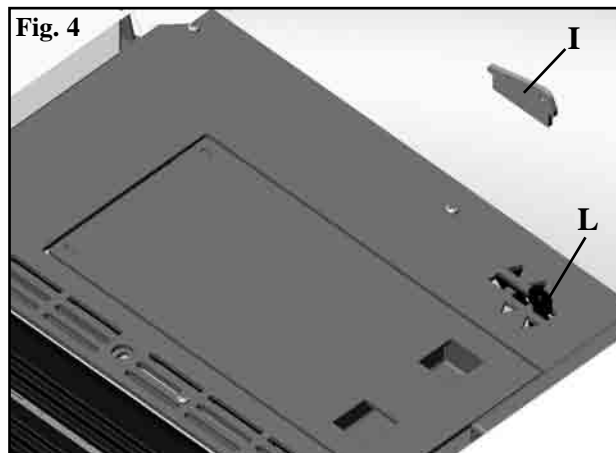

Fig. 4
The distribution of warm air can be adjusted manually using lever L which is accessible by lifting the top left ceramic lid (steel for Kelly) (fig. 4).
N.B. in order to operate the control lever you must remove the security plate (I-fig.4).